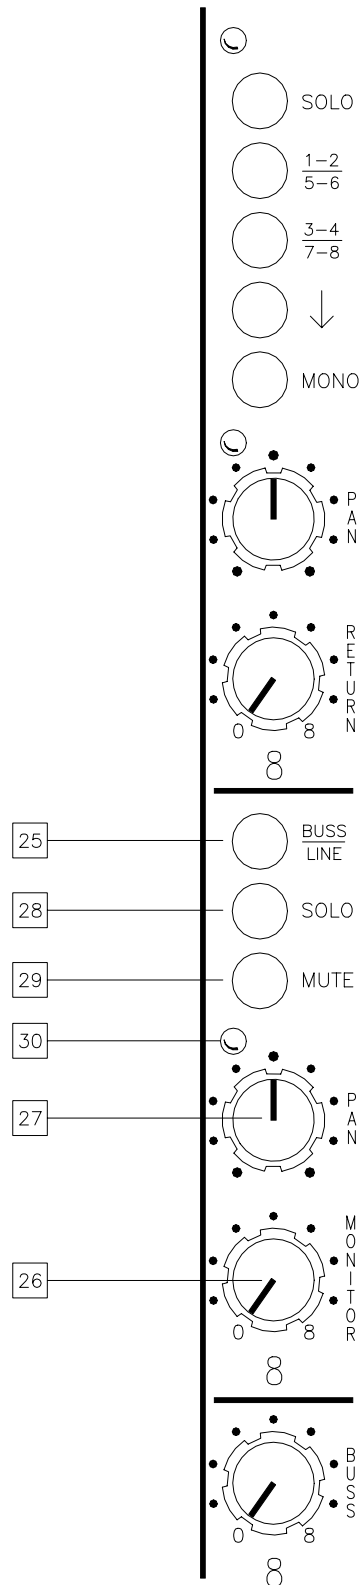

Figure 4. Monitor Channel
Refer to Figure 4 for location of items 25 thru 30